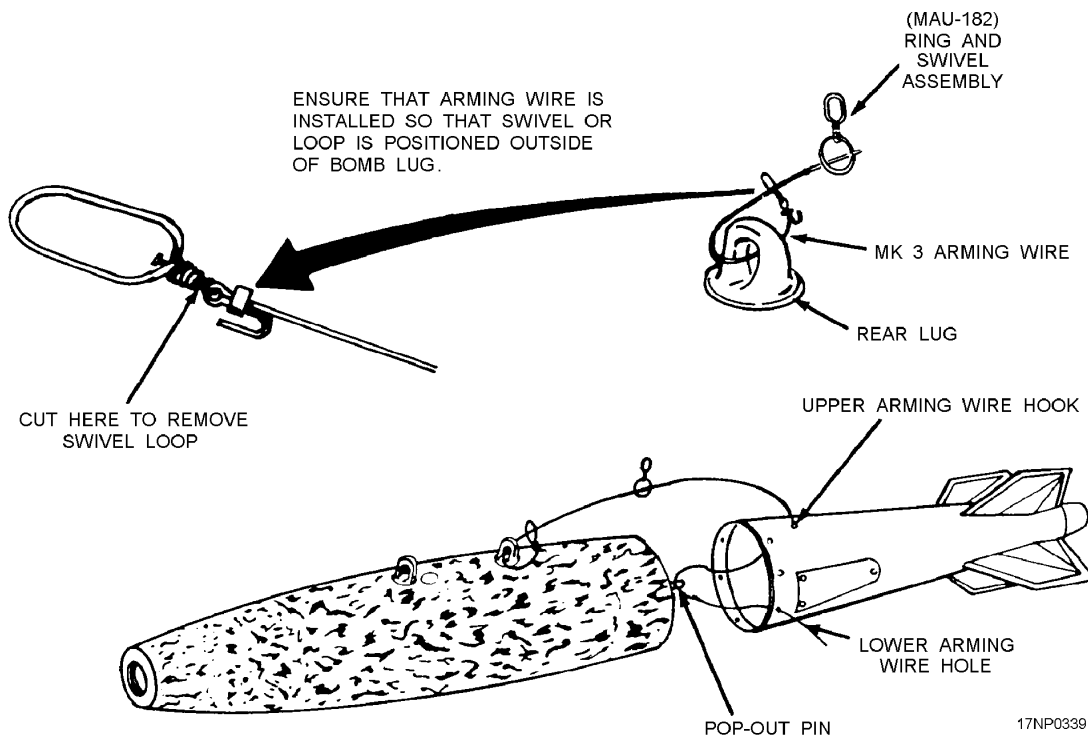

Figure 13-7.—Conical and BSU-33 series fin installation.
7. Attach the arming wire to the aft lug (fig. 13-7). Thread the free end of Mk 3 arming wire from aft bomb lug through MAU-182 swivel ring and arming wire hole in top of fin.